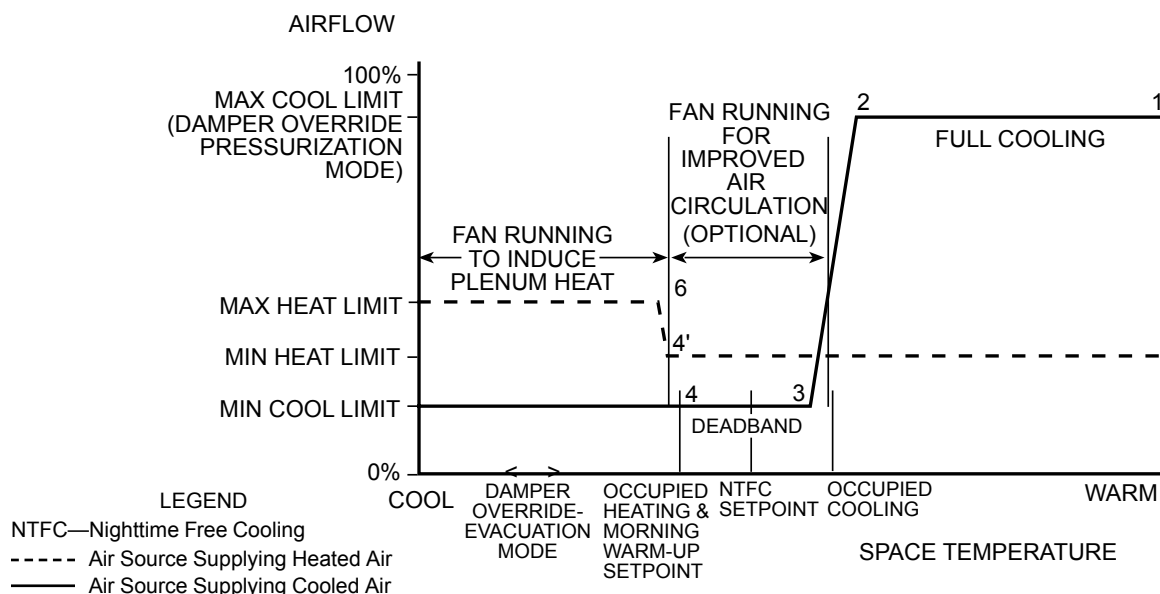

Figure 2 - Sequence of Operation for Intermittent Fan Powered Air Terminal—Without Heat
A. Cooling: (refer to numbers on flow diagram). See Fig. 2.
B. Heating: (when the primary air source is providing heated air, refer to numbers on flow diagram). See Fig. 2.